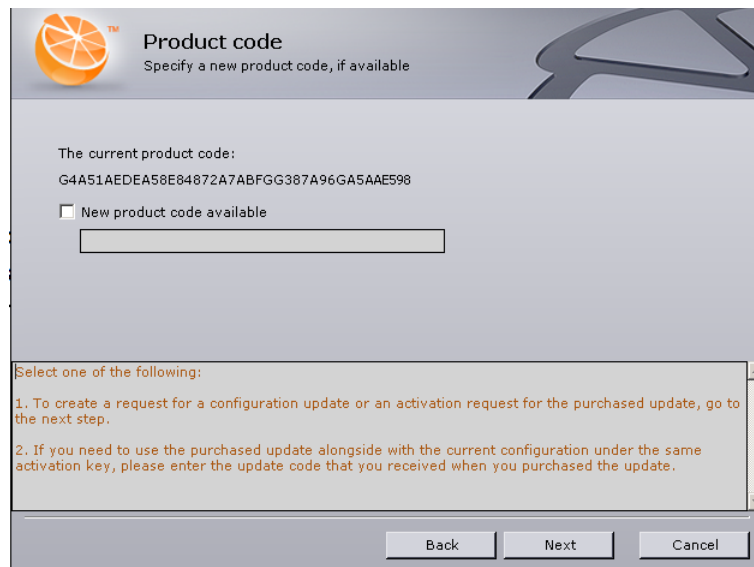

Fig. 4.7—19 Entering a new product code
7. Click the **Next** button. The activation request dialog box will then appear; select the desired activation method (Fig. 4.7—20):